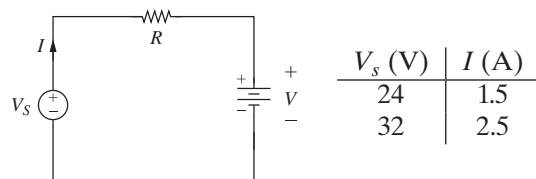

Figure P1.20 Single-loop circuit for problem P1-20.
- 1-20.** Repeat problem P1-18 for the data shown in Fig. P1.20.